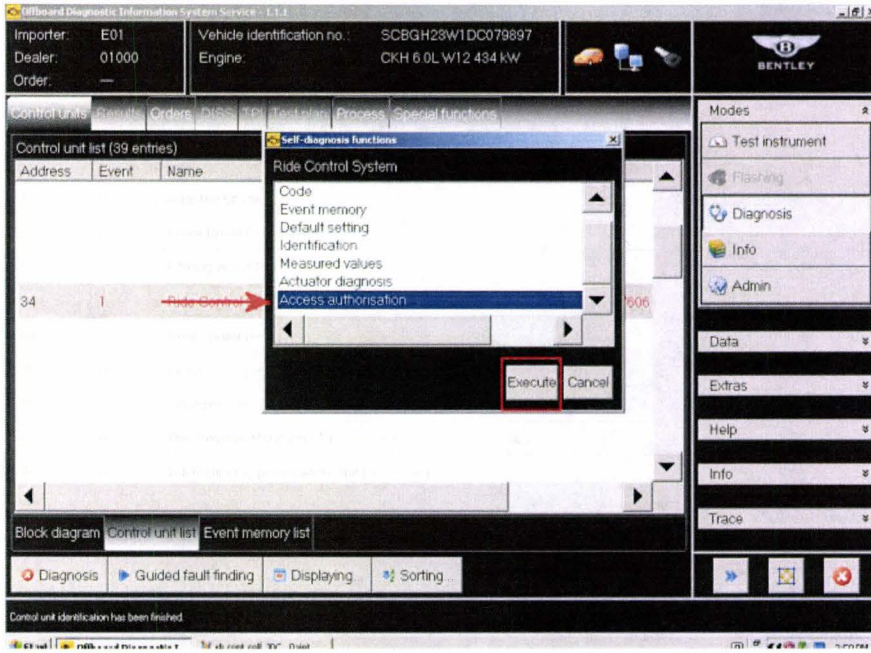

Figure 4
11. Select *Access authorisation* then *Execute* (see Figure 4)
3. Select *Access Authorisation* then *Execute* (see Figure 4)